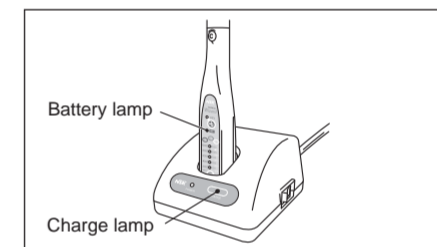

Fig. 6
- Remove the contra angle head from the motor handpiece and mount the motor cap onto it. (Refer to "7. MOTOR CAP") Insert the motor handpiece into the battery charger with the operation panel facing forward. If the motor handpiece power is on, it will be turned off automatically when inserted into the battery charger. Charging starts with the charge lamp turned on. The battery lamp of the motor handpiece lights. (Fig. 6)